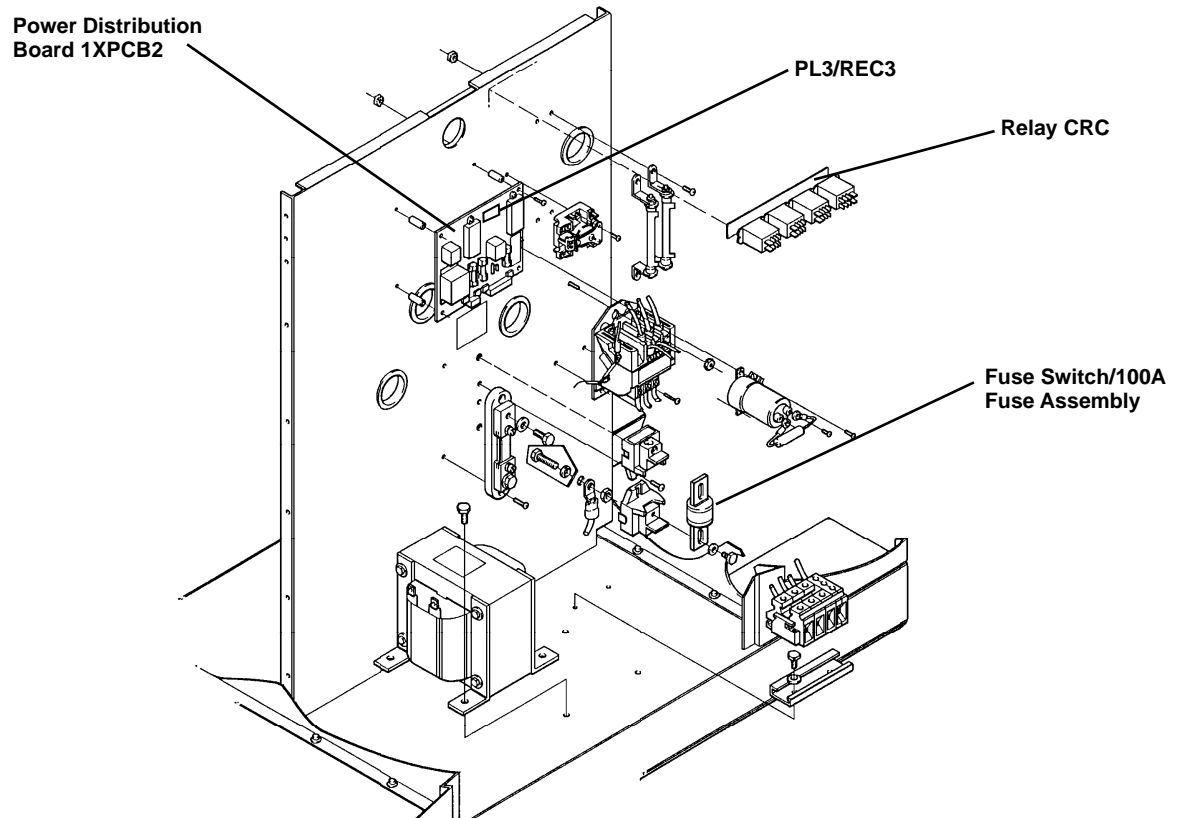

Figure 1 Power Distribution Board 1XPCB2 and PL2/REC2 Locations
2. Locate Power Distribution Board 1XPC132 (041147), semiconductor fuse switch S2 (005170)/100A fuse F4 (008827) assembly on right side (fig. 1) and do the following: